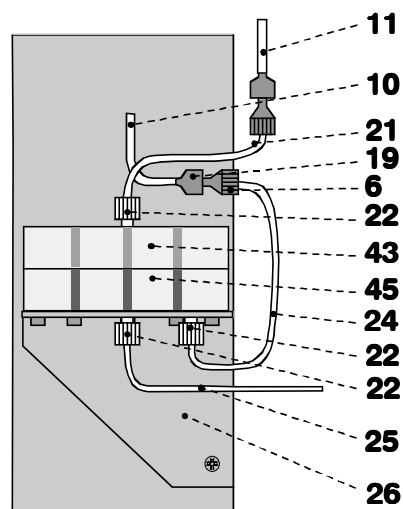

Fig. 11: Mount ultra-filtration cell
- Insert the assembled ultra-filtration cell in the cell holder **26** according to Fig. 1 or Fig. 11. The heads of the five screws **46** fit to the small holes of the cell holder.